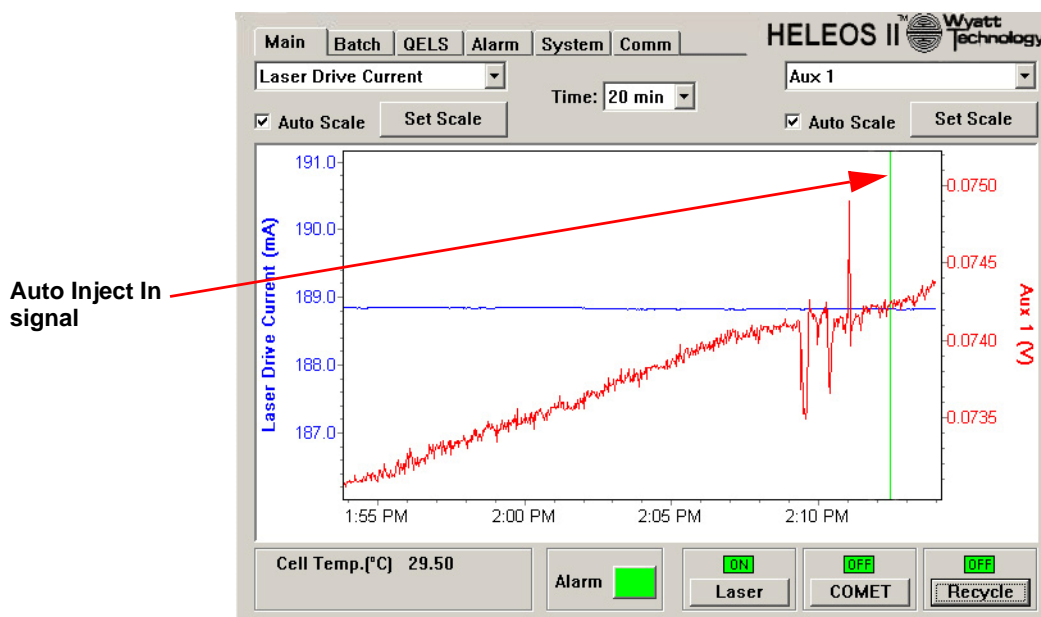

Figure 2-9: Inject signal on Wyatt Instrument display
5. If a Wyatt instrument is being used in conjunction with the DNDC Injector, verify that the injection signal was received on the instrument display by identifying either the red or green vertical line on the graph (red for Optilab rEX and green for other Wyatt instruments) (see Figure 2-9).